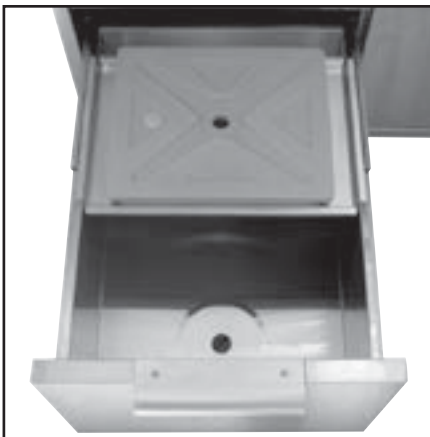

Fig. 17 - Freezer Pack (optional)
1. Freezer Pack (optional, Kit #70696A)(Fig. 17). This cold-assist Ice Pack (BLUICE) fits snugly into the roller rack found on the 30" and 48" Access Drawers and CAD carts.